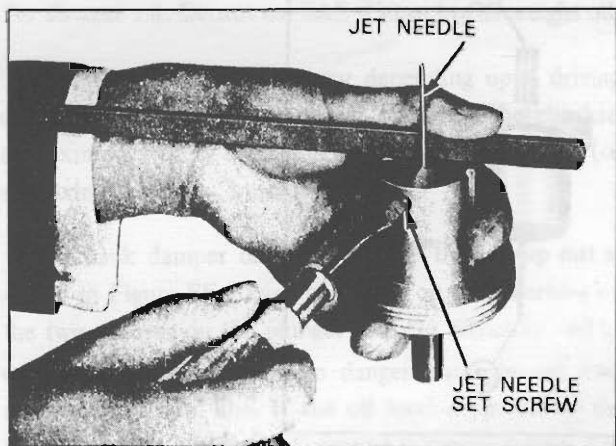

Fig. EF-54 Installing the jet needle
5. Idling and other operating performance features will be adversely affected if the jet needle is not installed correctly in the suction piston. Set the jet needle in the suction piston so that the shoulder portion is flush with the bottom of the suction piston. Apply an appropriate tool having a horizontal (flat) surface such as slide calipers to the lower end, as shown in Figure EF-54, so that the shoulder of the jet needle contacts this surface, and tighten the jet needle set screw. The jet needle will then be installed correctly.